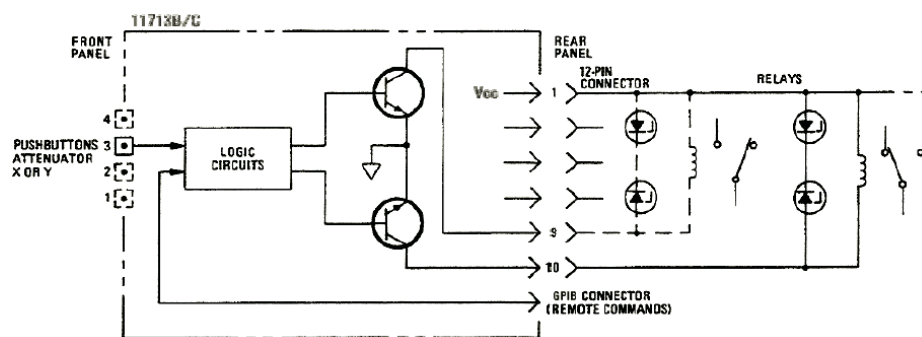

Figure 2-7 Typical connection for relay driving circuit
- Figure 2-7 below shows the connections for a simplified relay driving circuit. The circuit is adaptable for simple non-latching relays.